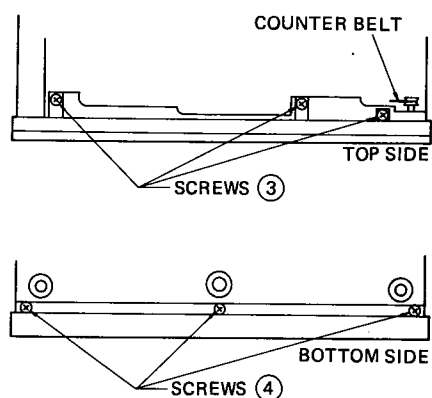

Fig. 2
- 4) Remove each of the 3 screws (3) at the top of the front panel and the 3 screws (4) at the bottom of the front panel.
- 5) After removing the TAPE 2 counter belt (refer to Fig. 2), remove the front panel forward.